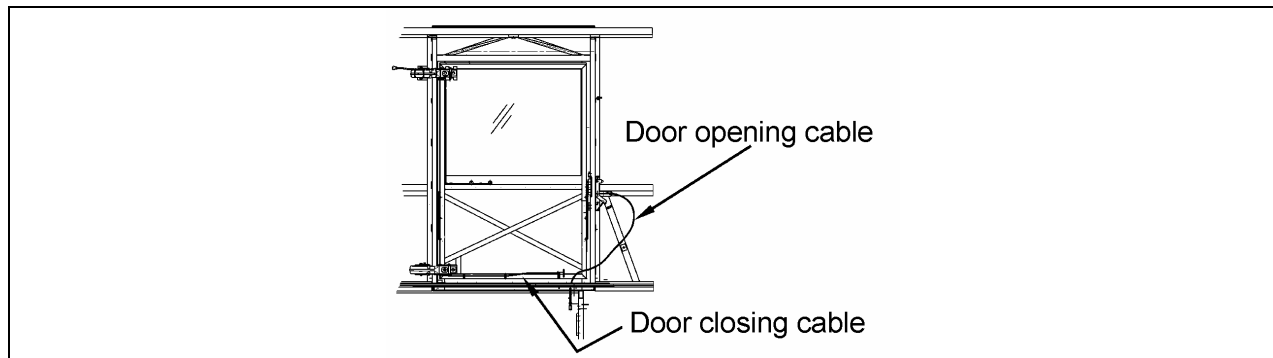

FIGURE 1: WHEELCHAIR LIFT ACCESS DOOR OPENING AND CLOSING CABLES
3. Remove existing cable (see routing on figure 1).